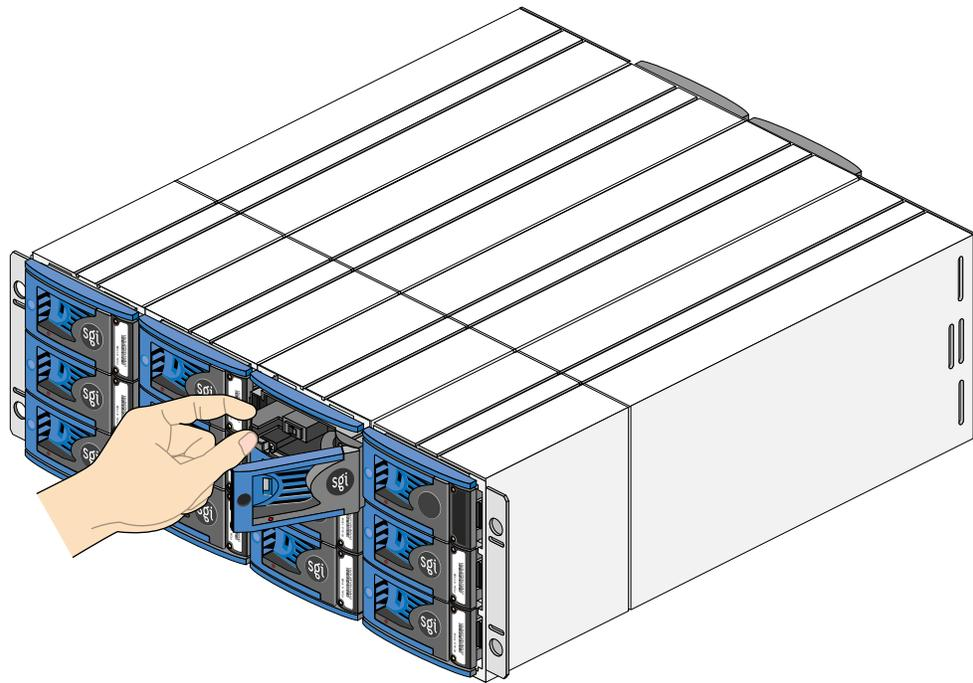

Figure 8-17 Drive Seated: Rackmount Enclosure
6. Push the disk drive module gently into the chassis until it is stopped by the camming lever on the right of the module, as shown in Figure 8-17.